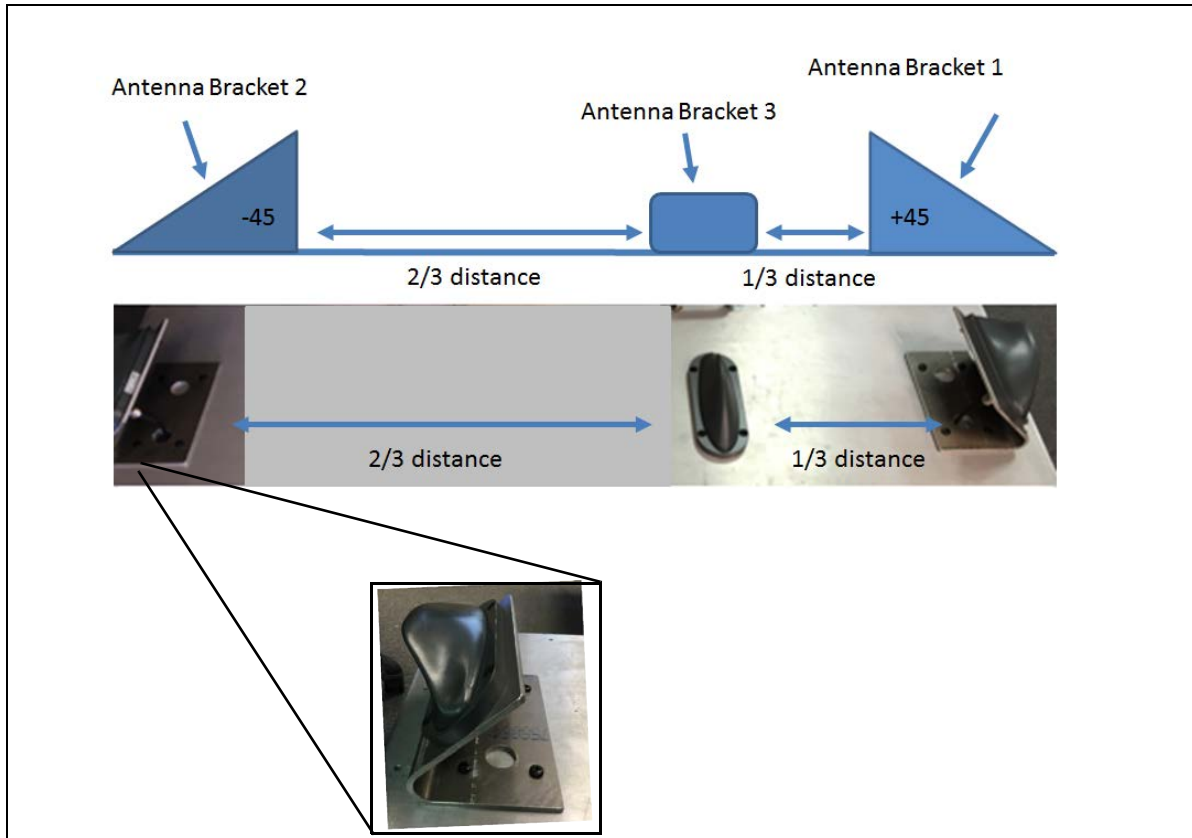

Figure 2-81: TMU antenna mounting configuration on roof
- Mount Antenna 1 and Antenna 2 on the edge of the locomotive at a 45° angle, as shown in Figure 2-81.
- Mount Antenna 3 (center) at a 90° angle (directly up) and one third of the distance between the right and left antennas as shown in Figure 2-81.